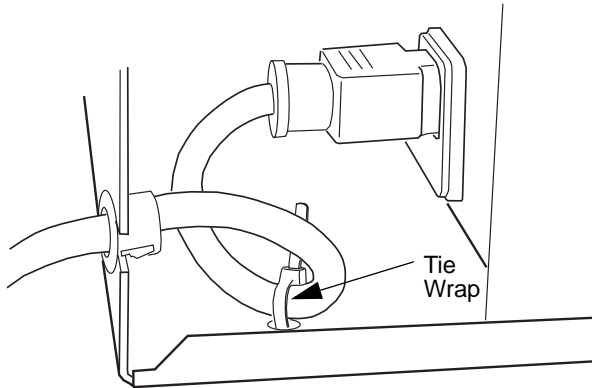

Figure 3-2. Service Loop
3. Use the tie wrap to anchor the "service loop" to the chassis through the two holes in the bottom of chassis as shown in Figure 3-2. Trim off the excess tie wrap.